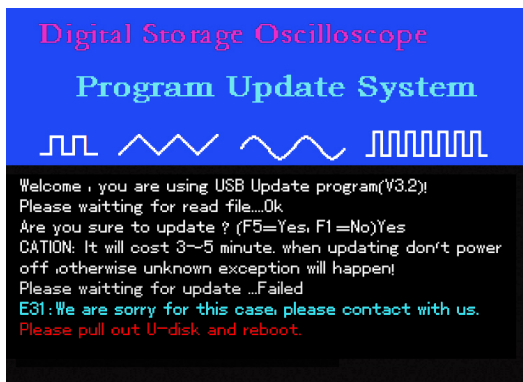

Figure 5-16
11. If an unknown error occurs when the user is updating the program, the prompt in Figure 5-16 will appear : “E31: We are sorry for this case, please contact with us. Please pull out U-disk and reboot.”